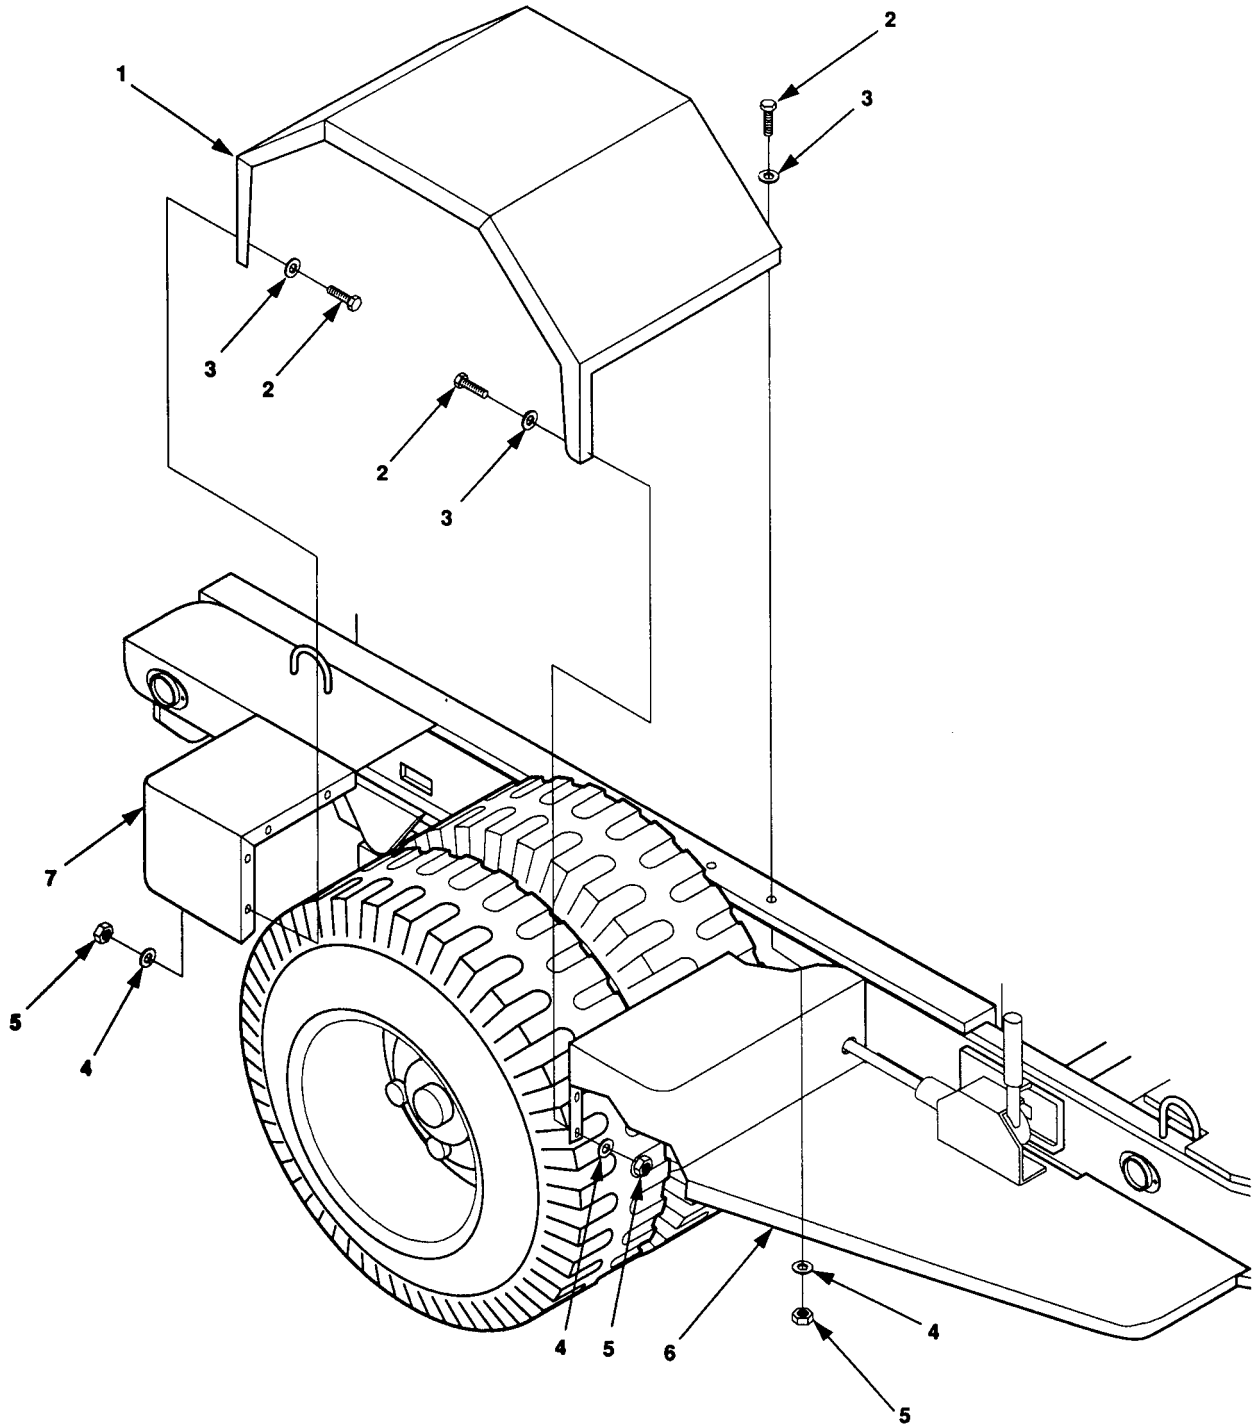

Figure 4-19. Fender Replacement
1. Remove seventeen self-locking nuts (5, figure 4-19) , flat washers (4) , bolts (2), and flat washers (3) securing fender (1) to trailer frame. Discard self-locking nuts.
2. Remove fender (1) .